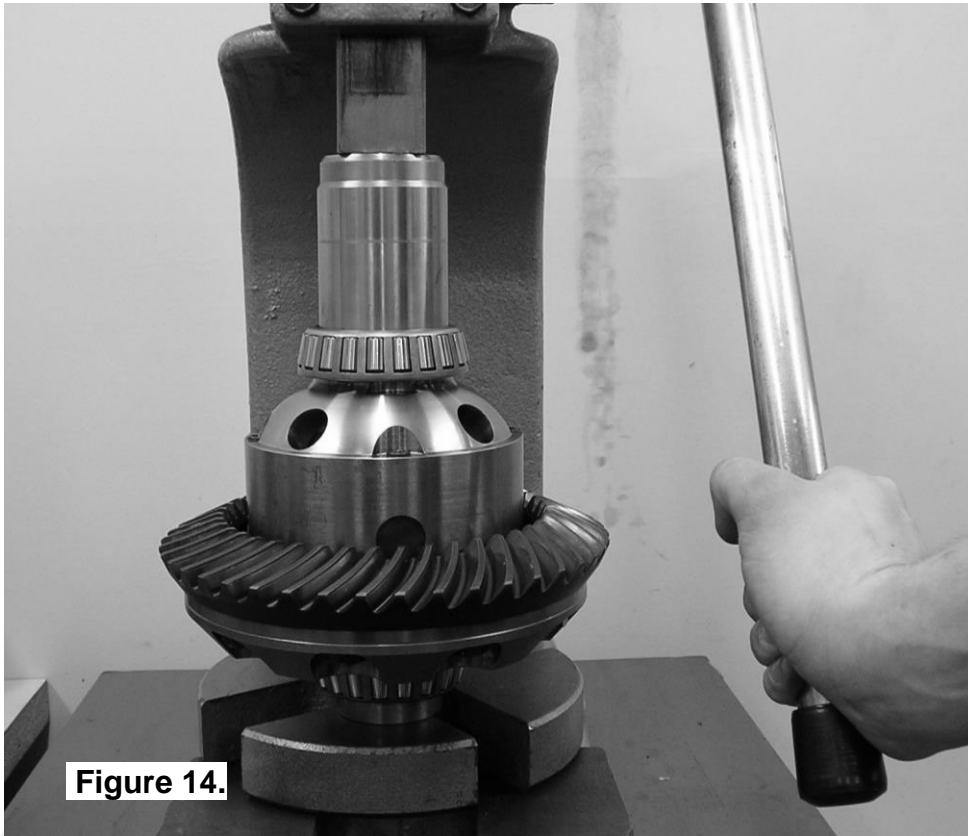

Figure 14.
- Using a bearing press or arbor press, press one of the bearing cones onto one bearing journal of the *Air Locker* (refer to figure 14.) until the bearing seats firmly against the bearing journal shoulder.